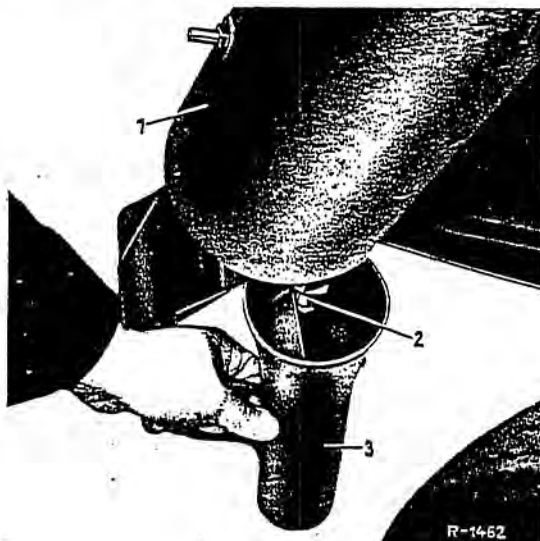

Fig. 32-12/10
2. After 300 miles (Schedule A), 1900 miles (Schedule B), and Every 1900 miles (Schedules C, D and E) drain condensation from the air reservoir. To do this, pull the drain valve (2) until there is no longer any condensation (approx. 2 sec.) (Fig. 32-12/10).